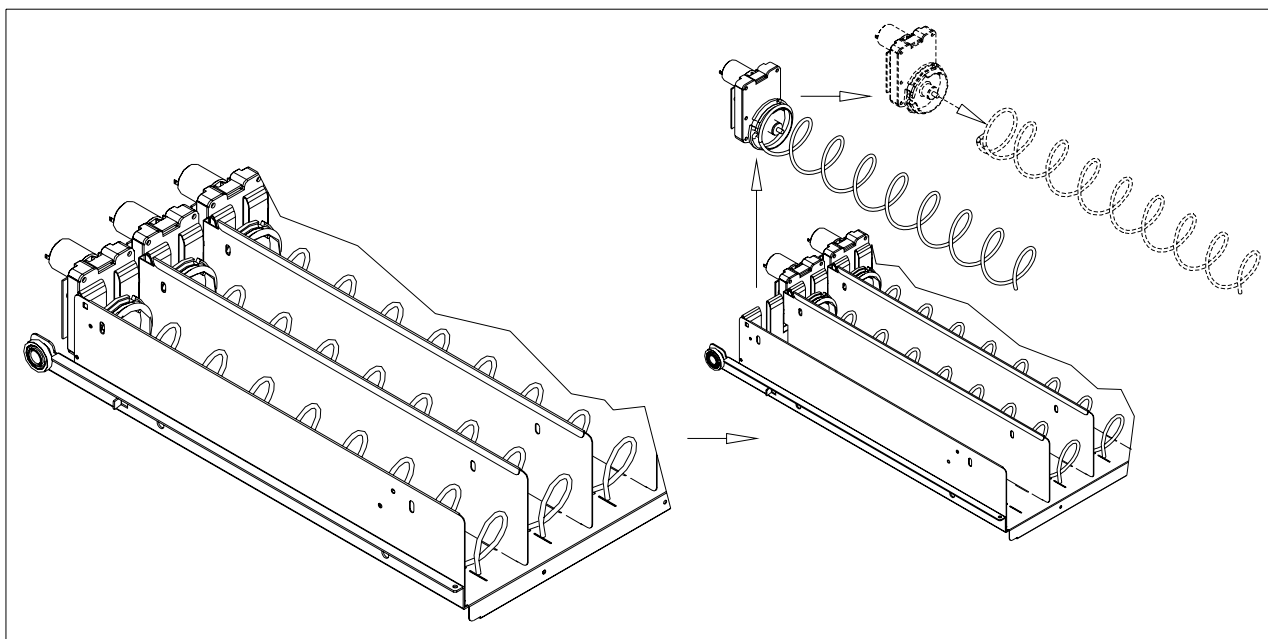

FIG. 7
9.2 PROCEDURE FOR REPLACING SPIRALS AND EXPELLER MOTOR GROUP (FIG. 7)